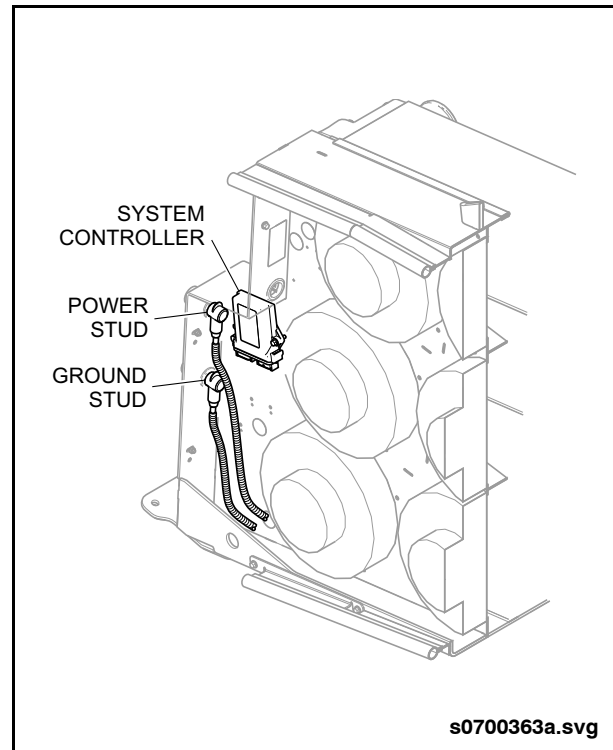

Fig. 1: Radiator Inspection
1. Locate the power and ground studs on the radiator and pull boots back from pass-through stud. See “Fig. 1: Radiator Inspection” on page 5.